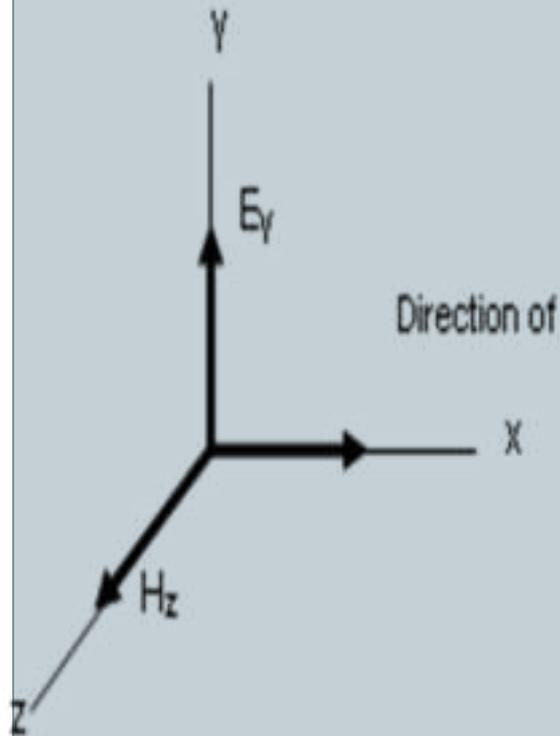

Figure 1.2b: TEM
i) ***Transverse Electromagnetic (TEM)*** waves - E field and H field transverse to the direction of propagation.(Figure 1.2b).